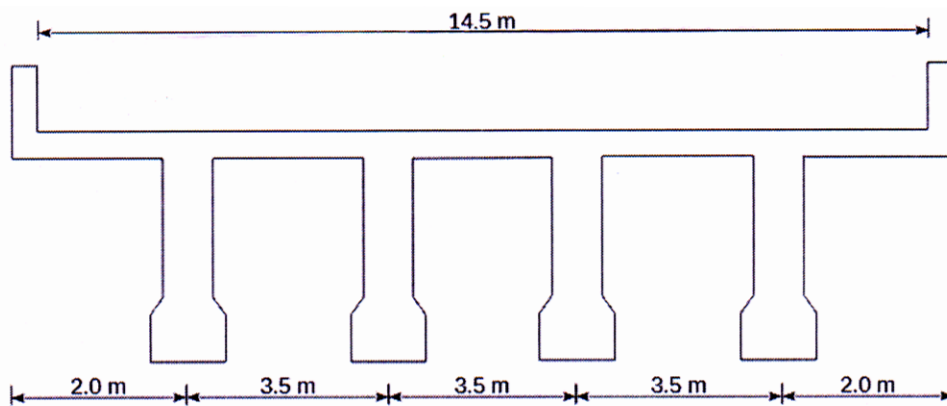

Fig.1
**Q1)** Design the intermediate prestressed post-tensioned concrete girder shown in Fig.1. **[18]**